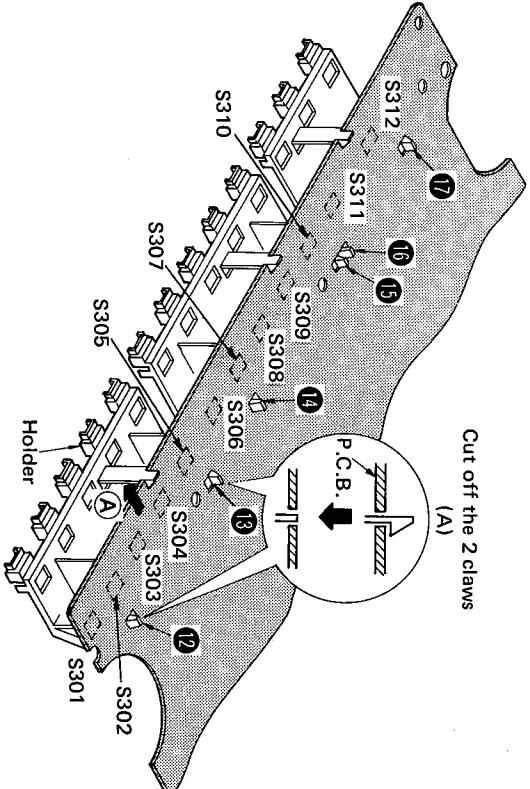

Fig. 4
2. When removing S301 ~ S305, cut off the 2 claws (Fig. 4 : ⑫, ⑬) of LED holder. (Fig. 4-A)
4. Release the claw A of LED holder and remove the LED holder from the printed circuit board. (Fig. 4)
6. To remove S306 ~ S310, cut off claws ⑭ and ⑮ .
7. To remove S311 and S312, cut off claws ⑯ and ⑰ .